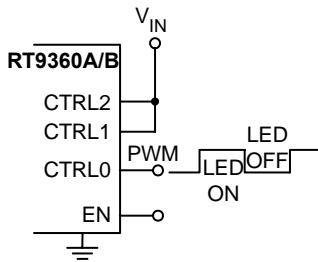
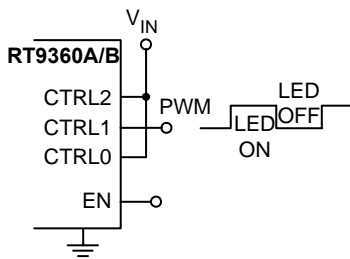
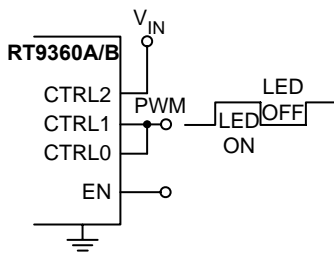

Figure 4. The PWM dimming application circuit for 4WLEDs
Figure 5. The PWM dimming application circuit for 3WLEDs
Figure 6. The PWM dimming application circuit for 2WLEDs
LED current can be controlled by applying a PWM signal to CTRL0, CTRL1, or CTRL2. Table3 shows the relation between CTRLx and 4 LED's current states. For an example, as the CTRL1 and CTRL2 are pulled logical high and CTRL0 receives a PWM signal, then, four LEDs will be dimmed synchronously. Here, the PWM signal setting the LED's current ON/OFF can achieve the average LED's current which in design. The application circuit is shown in Figure 4. Figure 5, and Figure 6 show 3WLEDs and 2WLEDs PWM dimming application circuit, respectively. During the time of PWM signal logical low, the current is a fixed value and setting by  $R_{SET}$  resistor. So the average LEDs current can be approximated as Equation (3).